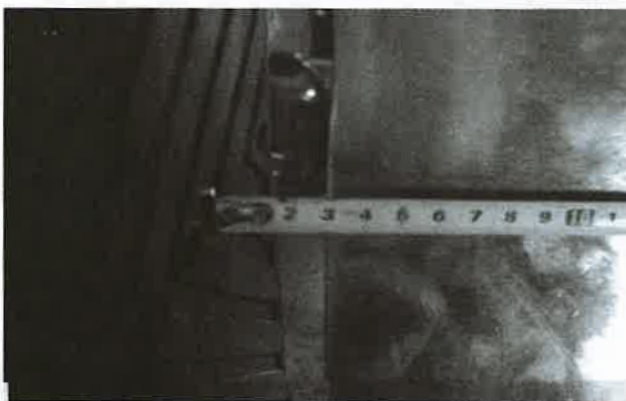

Fig 4-8
4.2.11 The distance from the sharp of the bead breaker blade to the wheel support is 30~40mm (Fig4-8).